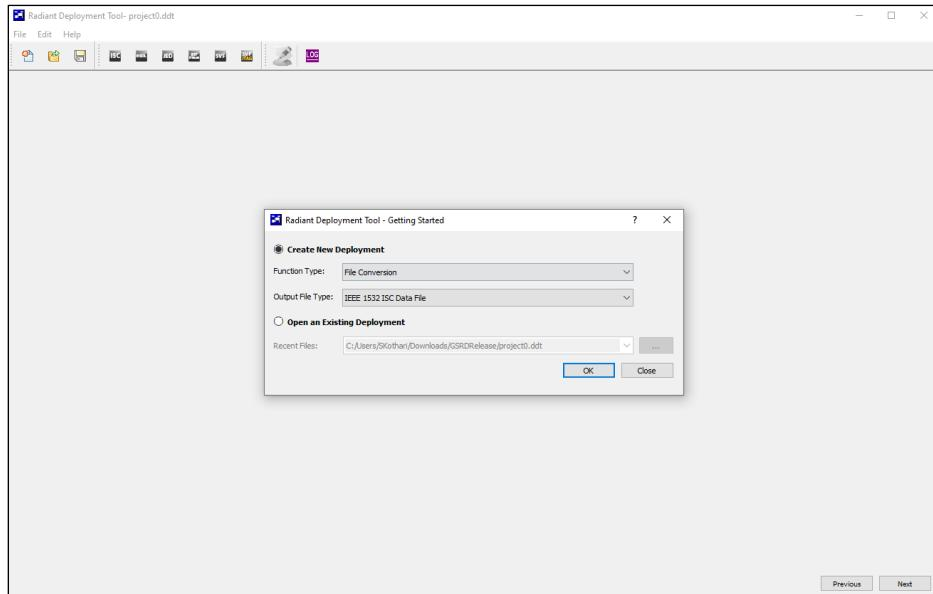

Figure 8.61. Deployment Tool Start Window
4. This opens the Deployment Tool window as shown in Figure 8.61.